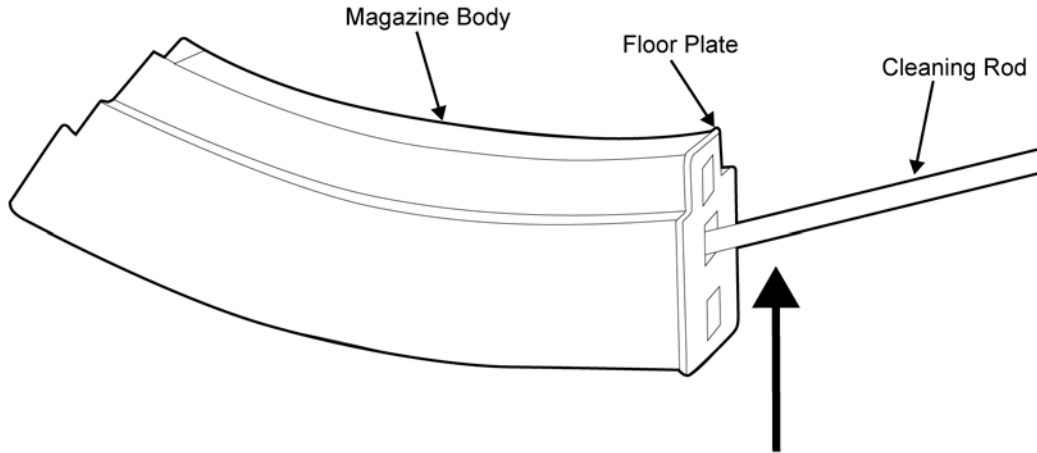

Figure 28. Installing the Floor Plate onto the Bottom of the Magazine Body.
2. Insert the cleaning rod, or other field expedient tool, through the hole in the floor plate to depress the locking plate. With the locking plate depressed, slide the floor plate forward onto the bottom of the magazine body. Refer to Figure 28.